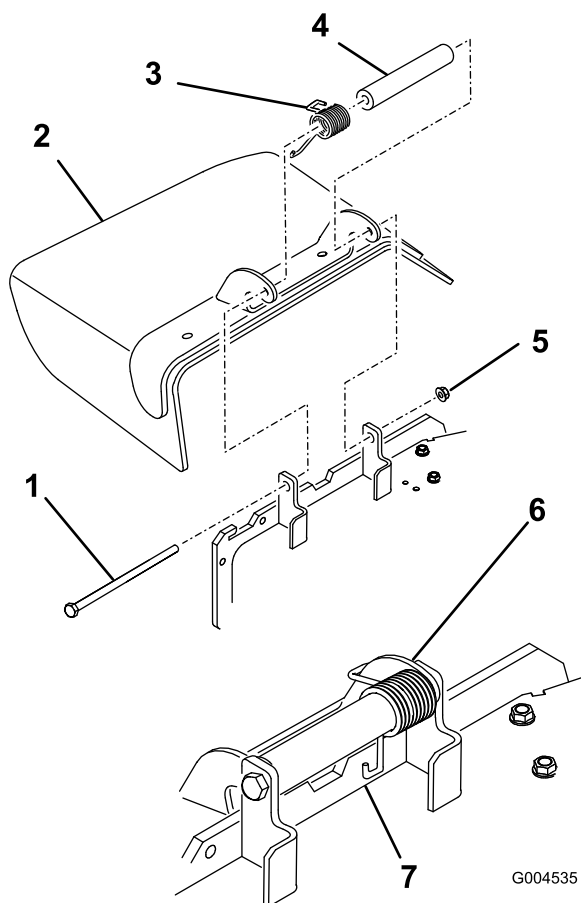

Figure 61
1. Remove the locknut, bolt, spring and spacer holding the deflector to the pivot brackets (Figure 61). Remove the damaged or worn grass deflector.
Note: Make sure the end of the spring is installed behind the deck edge before installing the bolt as shown in Figure 61.
3. Install the bolt and nut. Place the end of the spring around the grass deflector (Figure 61).